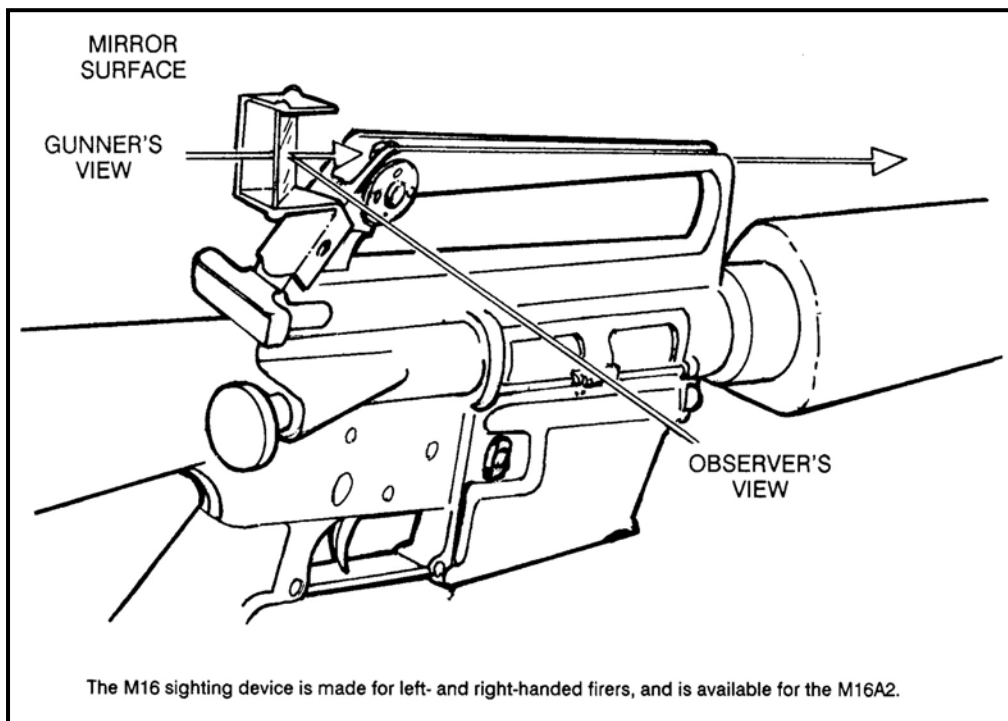

Figure A-3. M16 sighting device.
(4) ***M16 Sighting Device.*** The M16 sighting device (Figure A-3, page A-4) is made of metal with a tinted square of glass placed at an angle.